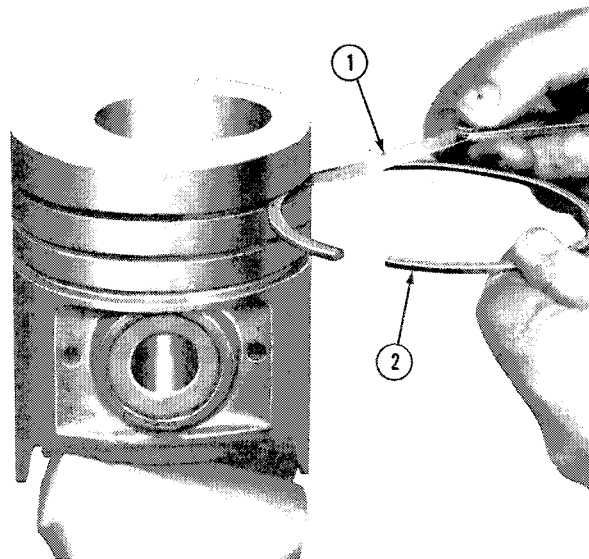

Figure 44
3. Clean the ring grooves and using a new ring and feeler gauge check the piston ring lands for wear, Figure 44. For maximum ring clearance see "Specifications" — Chapter 3.